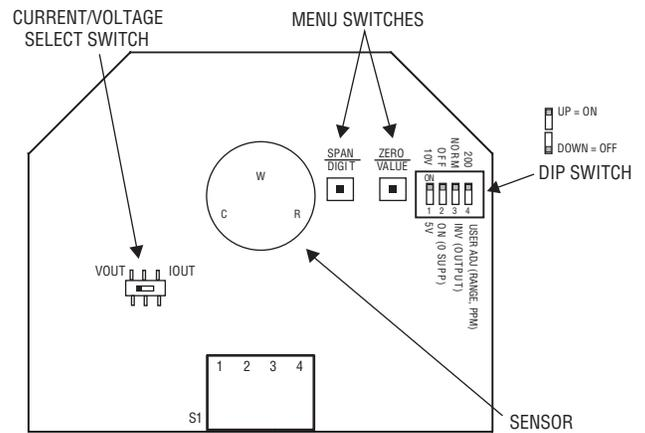

Figure 3
8. Set DIP SWITCH and I/O/V/O SWITCH as desired. Refer to Figure 3.
To access the current/voltage select switch, remove the cover of the unit. The current/voltage select switch is located on the circuit board as shown in Figure 3. Set the switch to "IOUT" for current, "VOUT" for voltage.
To access the DIP SWITCH, remove the cover of the unit. The DIP SWITCH is located on the circuit board as shown in Figure 3.
1. Remove the cover plugs from the face of the unit and top cover. Locate the sensor, see Figure 3 – the sensor is mounted on three pin sockets. The circuit board is labeled either "CO SENSOR" or "NO2 SENSOR" underneath the sensor.